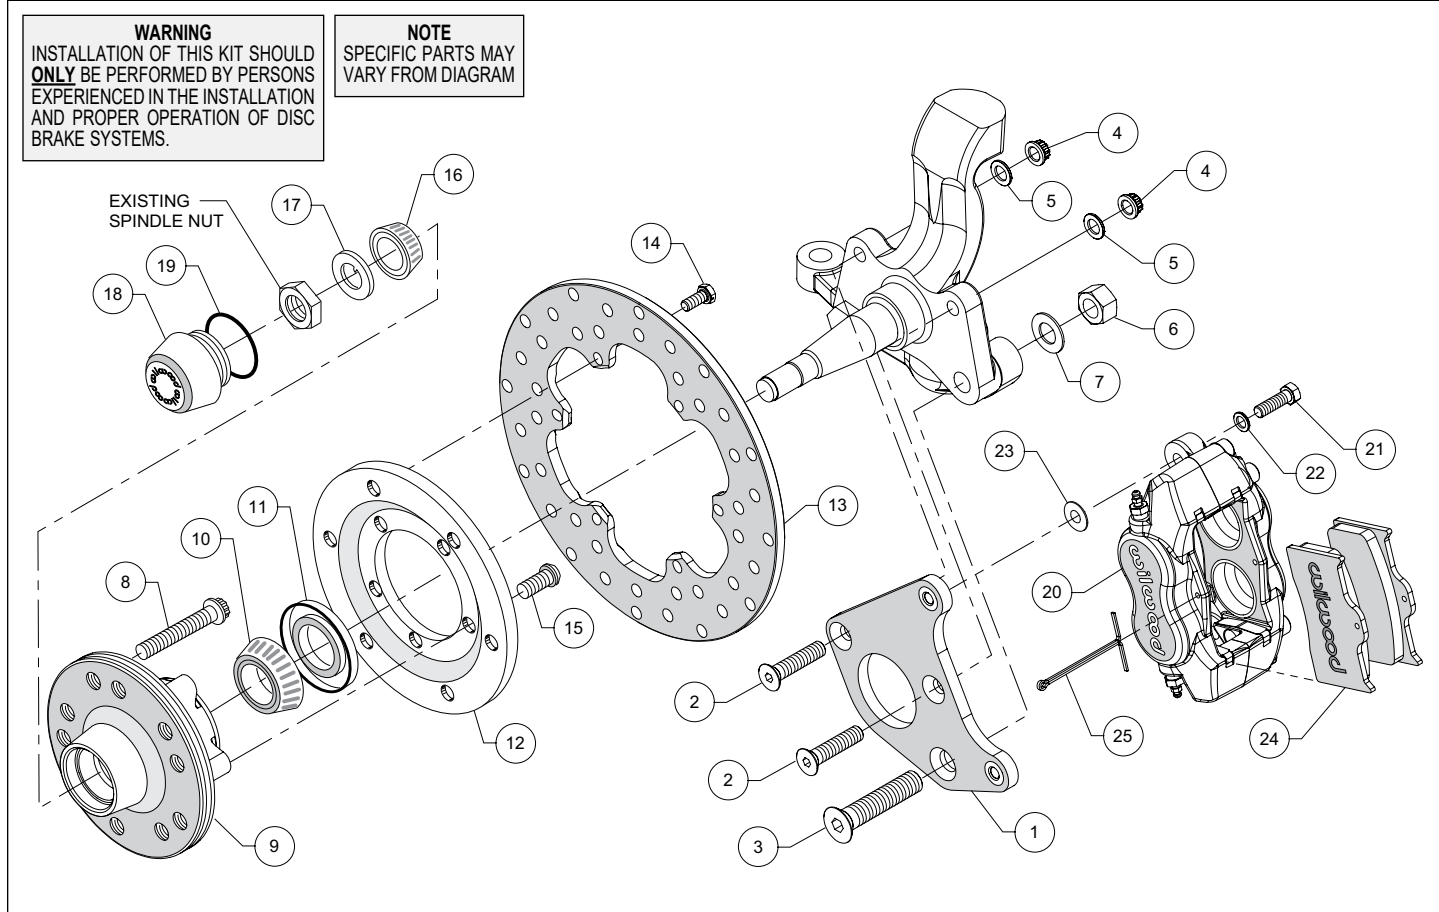

Figure 1. Typical Installation Configuration
NOTE: Numbers in parenthesis refer to the parts list and Figure 1 on the preceding pages.
- Orient the caliper mounting bracket (1) as shown in Figure 1 and Photo 1. Attach using bolts (2 and 3), nuts (4 and 6) and washers (5 and 7), Figure 1. Temporarily tighten the mounting bolts. Ensure that the flanged heads of the clinch nuts in the bracket are facing outboard, Photo 1. **NOTE:** The bracket must fit squarely against the mounting points on the spindle. Inspect for interference from casting irregularities, machining ridges, burrs, etc. Torque nuts (4) to 47 ft-lbs and nut (6) to 140 ft-lbs.
- Install wheel studs (8) into the hub (9), Photo 2. Torque to 77 ft-lb. **NOTE:** There are two five lug patterns in the hub (5 x 4.50 and 5 x 4.75). Ensure the correct hub stud pattern is being used to fit the wheel application.
- Pack the large inner bearing cone (10) with high temperature disc brake bearing grease (available from your local auto parts store) and install into the backside of the hub (9), Photo 3.
- Install the grease seal (11) by pressing into the backside of the hub (9), flush with the end of the hub, Photo 3.
- Orient the rotor (13) and the rotor adapter (12) as shown in Figure 1 and Photo 4. Attach the rotor to the adapter using bolts
- Mount the adapter/rotor assembly (12 and 13) to the hub (9) using bolts (15), as shown in Figure 1 and Photo 5. Using an alternating sequence, apply red *Loctite*® 271 to the threads, and torque to 45 ft-lb.
- Pack the small outer bearing cone (16) with high temperature disc brake bearing grease and install into hub (9). Slide the hub/rotor assembly onto the spindle. Secure using spindle washer (17) and OEM spindle nut, Photo 6. Install saved OEM nut lock (if any) and a new cotter pin (not included). Bearing adjustment:
- Screw dust cap (18) into hub (9), Photo 7. Friction created by the o-ring (19) on the dust cap keeps it from unscrewing. **NOTE:** The O.D. of the existing OEM spindle washer may be larger than the I.D. of the dust cap not allowing it to seat against the hub face. Therefore, use the spindle washer (17) supplied with the kit instead of the OEM washer.
•**NOTE:** Please reference the caution statement at the beginning of the assembly instructions. Mount the caliper (20) onto the caliper mounting bracket (1) using bolts (21) and washers (22), as shown in Figure 1. Initially place one .035" thick shim (23) on each bolt between the caliper and the bracket, Photo 8. Temporarily tighten the mounting bolts and view the rotor (13) through the top opening of the caliper. The rotor should be centered in the caliper, Photo 9. If not, adjust by adding or subtracting shims (23) between the bracket and the caliper. Always use the same amount of shims on each of the two mounting bolts. **NOTE:** The end of each bolt must be flush with or slightly protruding from the head of the clinch nut, as shown in Figure 3. If necessary place spare shims between washer (22) and caliper mounting ear to achieve the proper clinch nut engagement. Once the caliper alignment and clinch nut engagement are correct, remove the bolts one at a time, apply red *Loctite*® 271 to bolt threads, and torque to 40 ft-lb. For an added measure of security, the bolts may be safety wired using standard 0.032 inch diameter stainless steel safety wire as shown in Figure 3. Refer to Wilwood's data sheet DS-386 (available at www.wilwood.com/Pdf/DataSheets/ds386.pdf) for complete safety wire installation instructions.
- Install the disc brake pads (24) into the caliper, with the friction material facing the rotor (13), Photo 10, and secure in place using cotter pin (25), Photo 11.